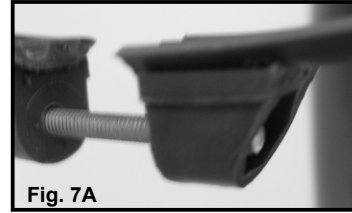

Fig. 7A
3. **Fig. 7A:** On the bottom of the plastic grille band (Part #1) loosen, BUT DO NOT REMOVE the setting screw with a screwdriver.